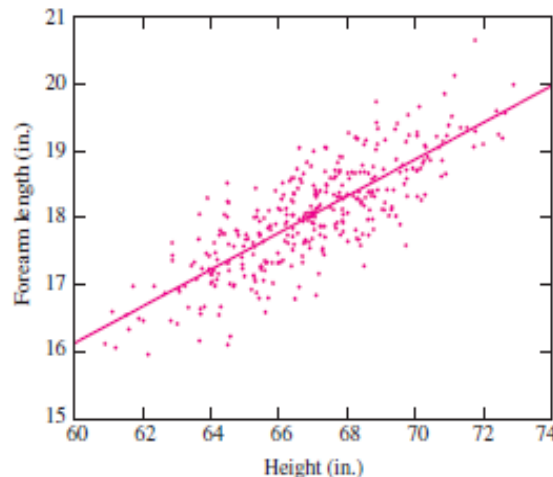

FIGURE 7.1 Heights and forearm lengths of 348 men.
5. In Galton's height data (Figure 7.1, in Section 7.1), the least-squares line for predicting forearm length (y) from height(x) is $y = -0.2967 + 0.2738x$.